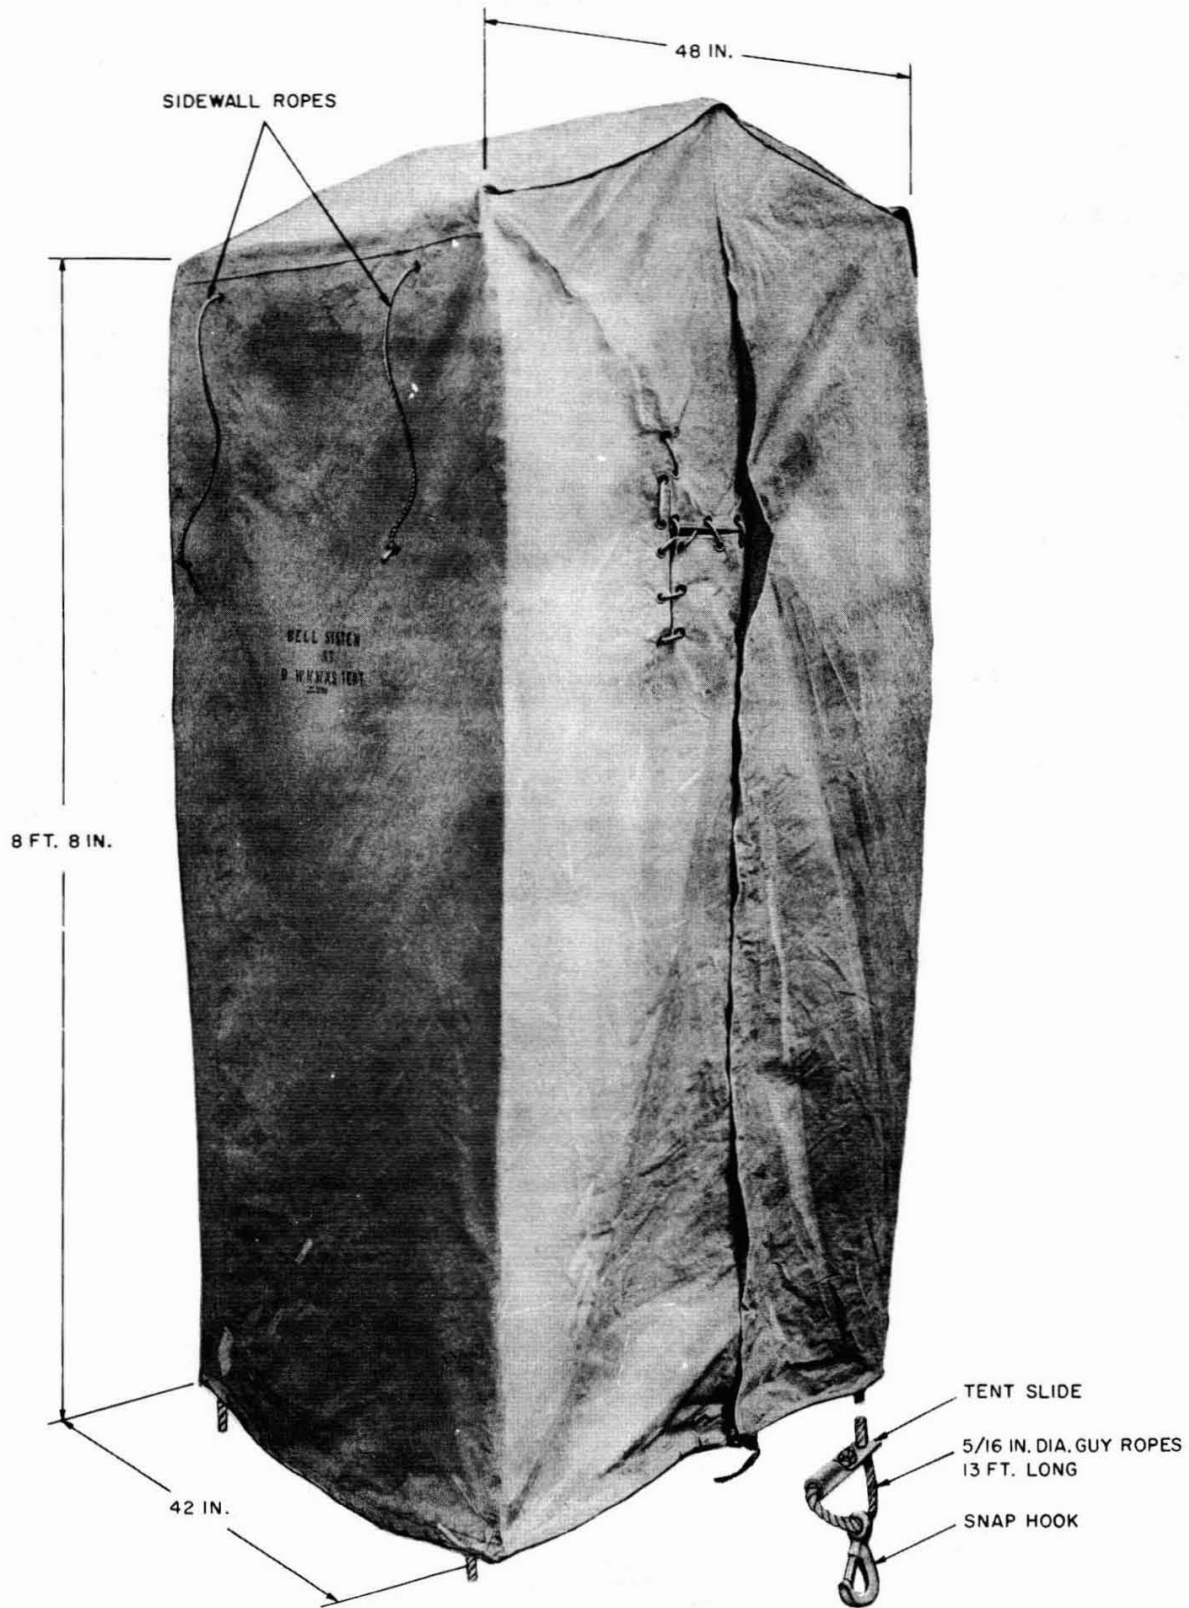

Fig. 1—D Workman's Tent
2.01 The D workman's tent (Fig. 1) is a compact, lightweight, folding tent designed for